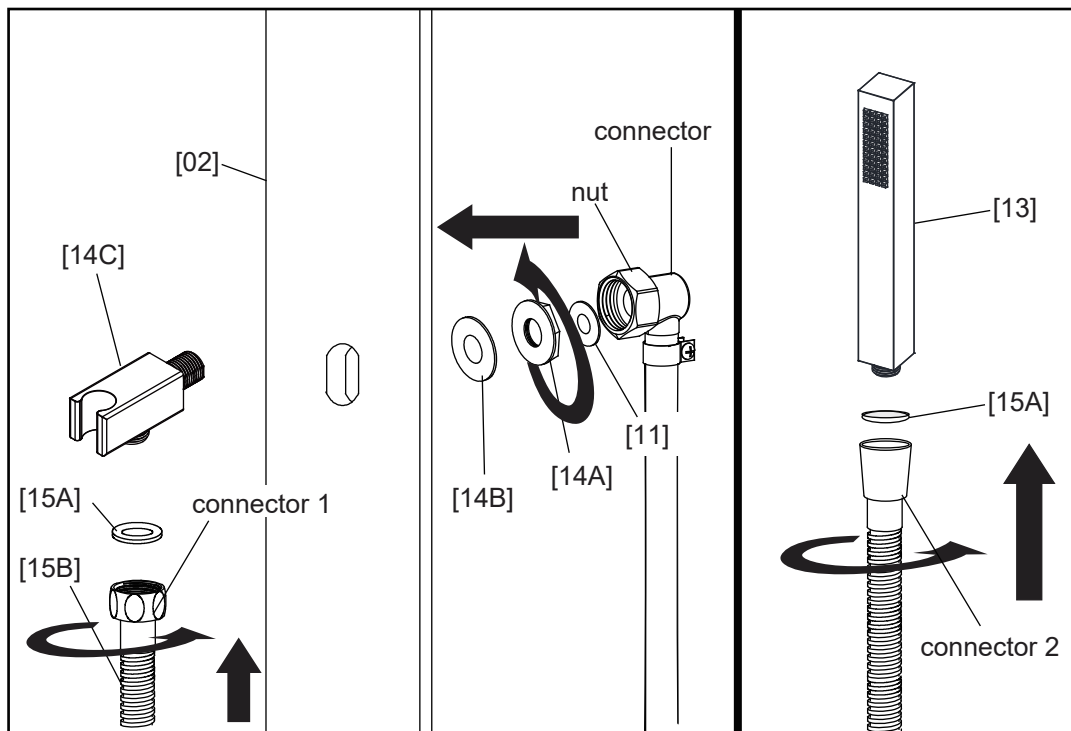
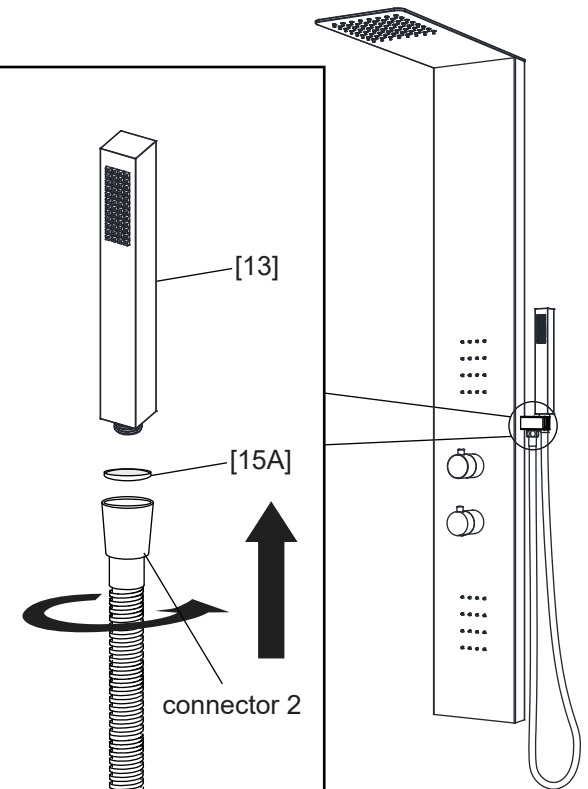

Fig 4.1
Fig 4.2
- 4-1** Install the **Shower Holder [14C]** through the hole from the right of **Shower Panel [02]**. Make sure the shower hose connector faces downward. (Fig 4.1)
- 4-2** Slide the **Washer [14B]** to the **Shower Holder [14C]** from the inside of **Shower Panel [02]** and secure it by tightening the **Nut [14A]**. Do not over tighten. (Fig 4.1)
- 4-3** Install the **connector** with **Washer [11]** in it to the **Shower Holder [14C]**. Then tighten the **nut** of the **connector** to secure. (Fig 4.1)
- 4-4** Connect the **connector 1** of **Shower Hose [15B]** to **Shower Holder [14C]** and **connector 2** to **Hand shower [13]**. Tighten the connectors to secure. Make sure there are washers inside the connectors. (Fig 4.1, Fig 4.2)